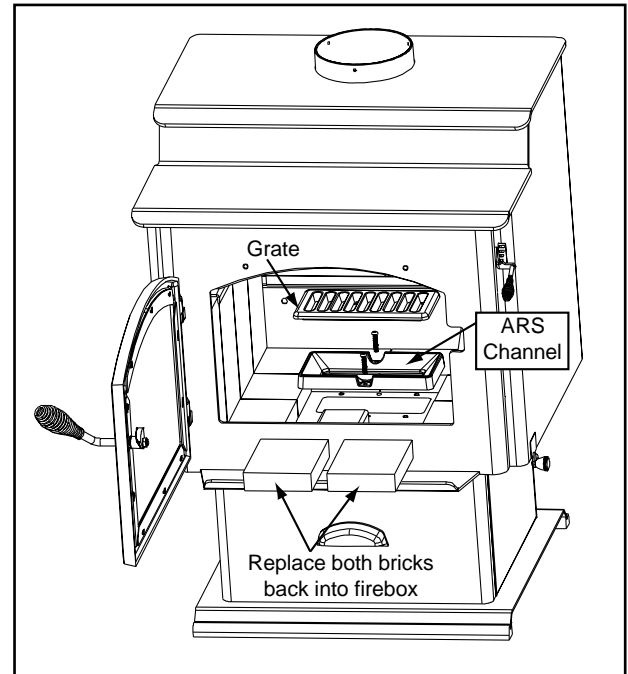

Figure 22.2
1. The ARS channel is already installed on the stove. Set the grate into the ARS channel and secure with 2 bolts previously removed. Replace the 2 front cut bricks. **Figure 22.2.**
1. Follow steps 1 through 3 on **page 22**. See also **Figure 22.2**.